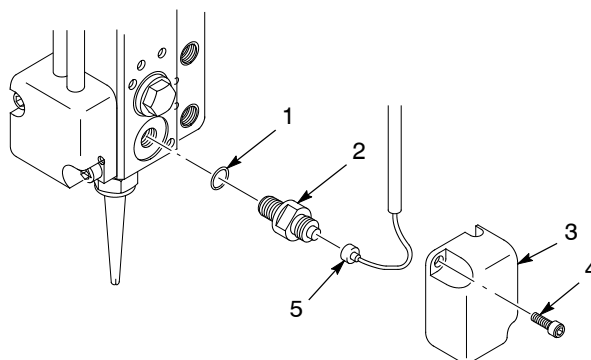

Figure 9 Replacing the Pressure Transducer
1. See Figure 9. Using a 4-mm hex key, remove the screws (4) and remove the pressure transducer cover (3).
2. Unscrew the cordset plug (5).
3. Using a $\frac{7}{16}$ open-end wrench, remove the pressure transducer (2) and O-ring (1) from the gun body.